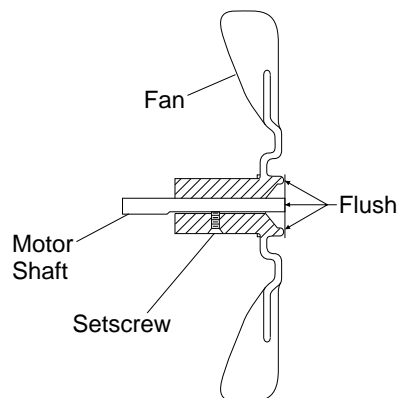

Figure 28 - Fan Cross Section
6. Replace fan on motor shaft. Place fan hub flush with end of motor shaft (see Figure 28).